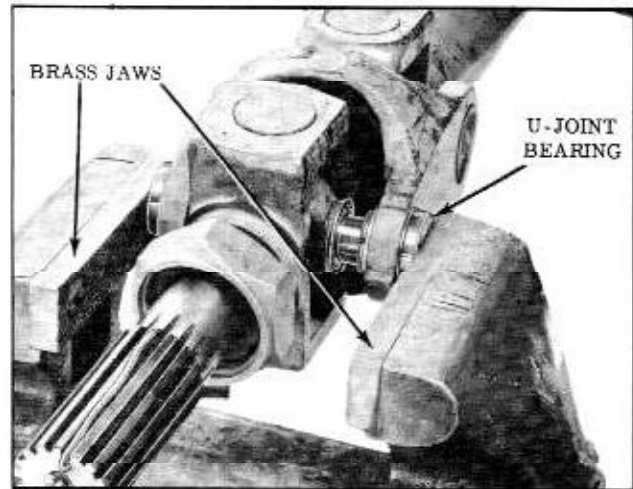

Fig. 6-39 Installing "U" Joint
- Press a bearing into one side of yoke, (Fig. 6-39), until retaining ring can be installed.